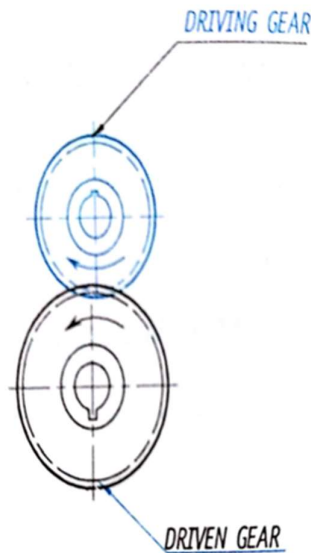

Fig. 1. Spur Gear
- When the axes of the driving and driven shafts are parallel and co-planar as shown in Fig.1. and the teeth of the gear wheels are parallel to the axes, the gears are called Spur Gears.